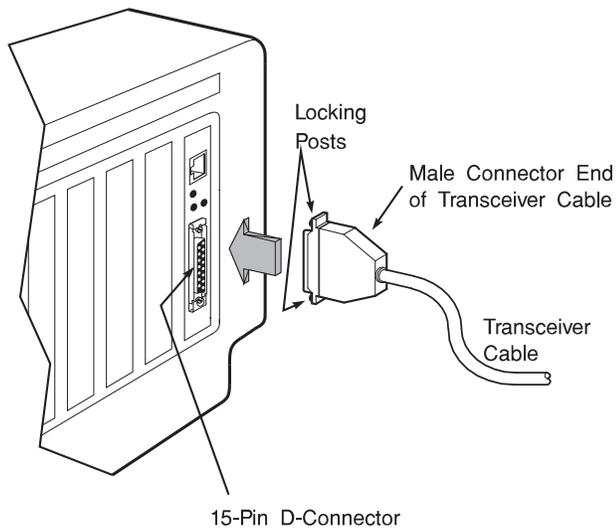

Figure 4-4. Connecting the Ethernet AUI/RJ-45 card to a standard Ethernet network
2. Attach the transceiver cable's male connector to the card's 15-pin D-connector, and secure the connection by tightening the two mounting screws (see Figure 4-4).